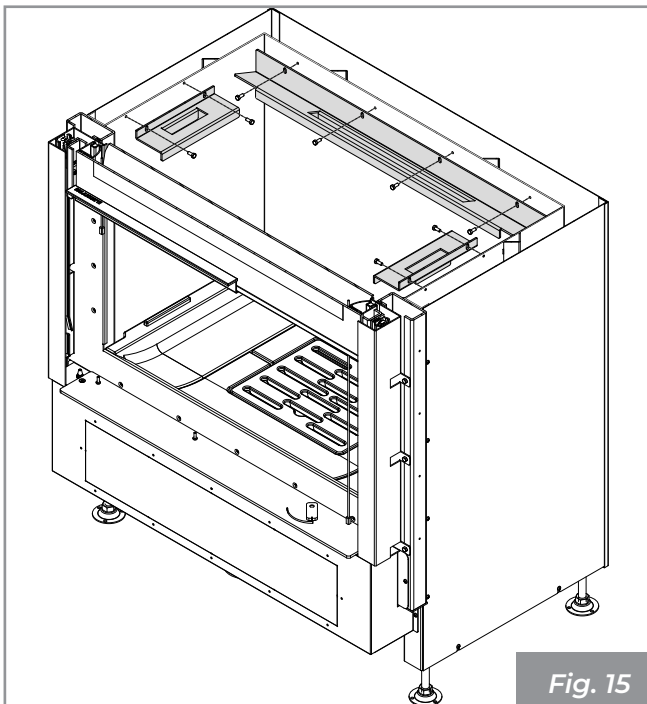

Fig. 15
- 1) Remove the brackets and their screws. (Fig. 15).